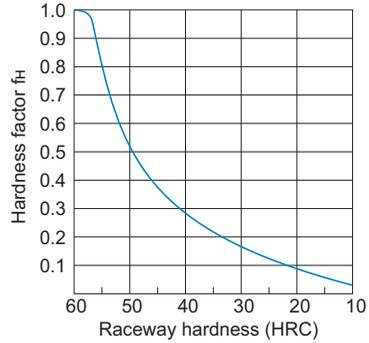

Fig.11 Hardness Factor (fH)
- $P_T$  : Calculated load (lateral direction) (N)
- $f_H$  : Hardness factor (see Fig.11 on A1-77)